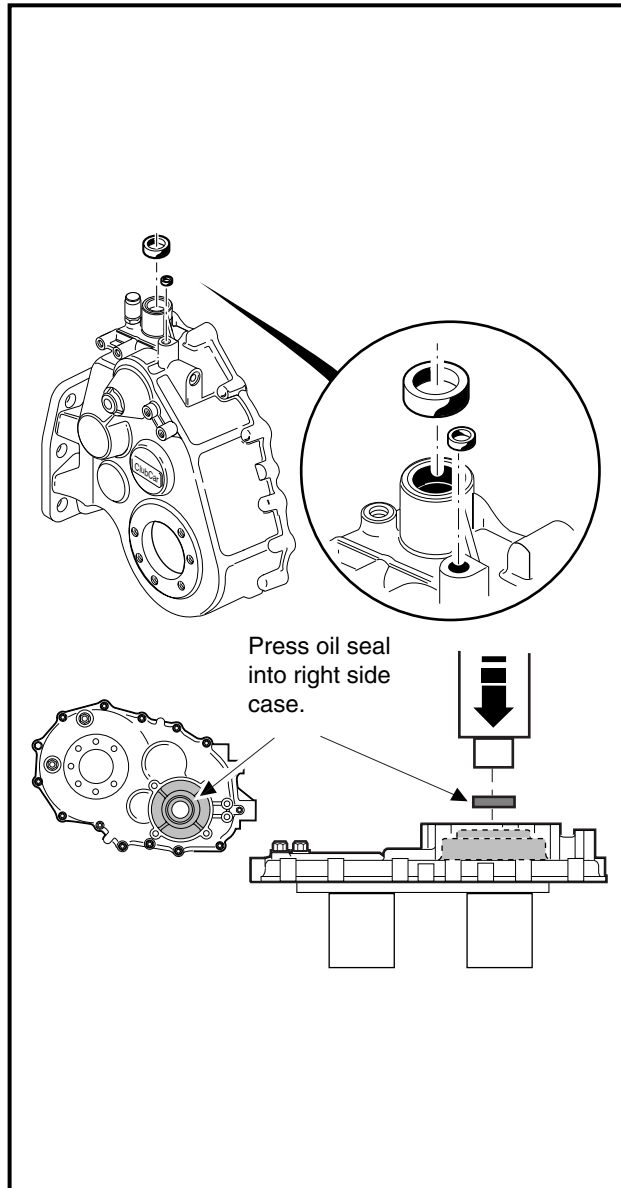

Figure 7-43 Install Seals
2. Put a light coating of clean transmission oil on the outside edge of the seal to make installation easier. Press two new oil seals (18 and 23) (**Figure 7-5, Page 7-4**) into the top of the left (driver) side case. Use an oil seal installation tool (CCI P/N 1014160) to install a new oil seal (58) (**Figure 7-16, Page 7-9**) into the right (passenger side) case. **See also Figure 7-43, Page 7-24.**